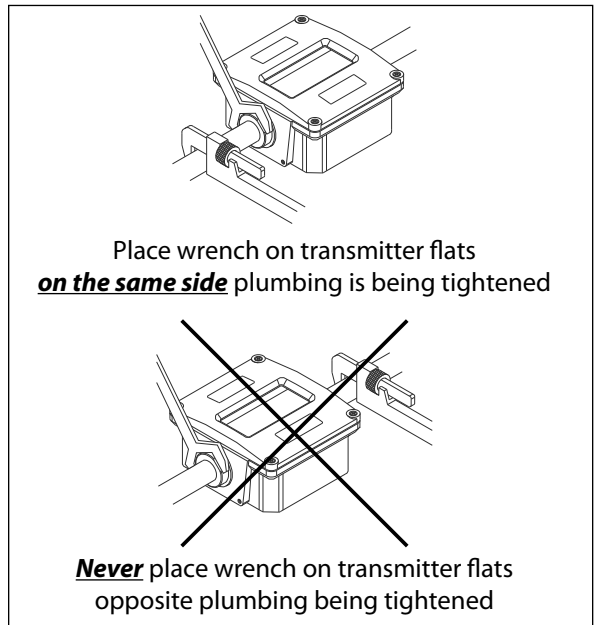

Figure 6 - Installing Meter
5. Install unit in desired location. Use wrench on transmitter flats to hold the unit in place during installation. DO NOT TURN the transmitter using the wrench. See **Figure 6**.